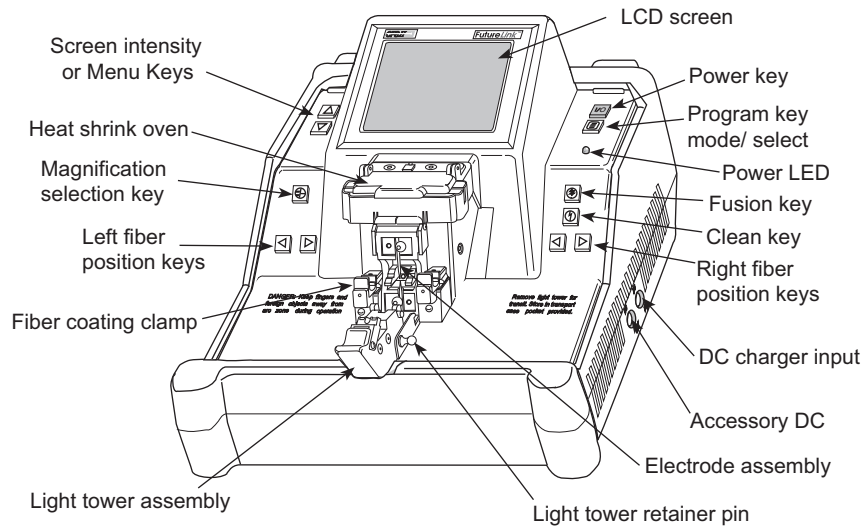

Figure 2 CFS II Splicer - Heat Shrink Oven model
1.2 The parts of the CFS II are identified in Figures 2 and 3: